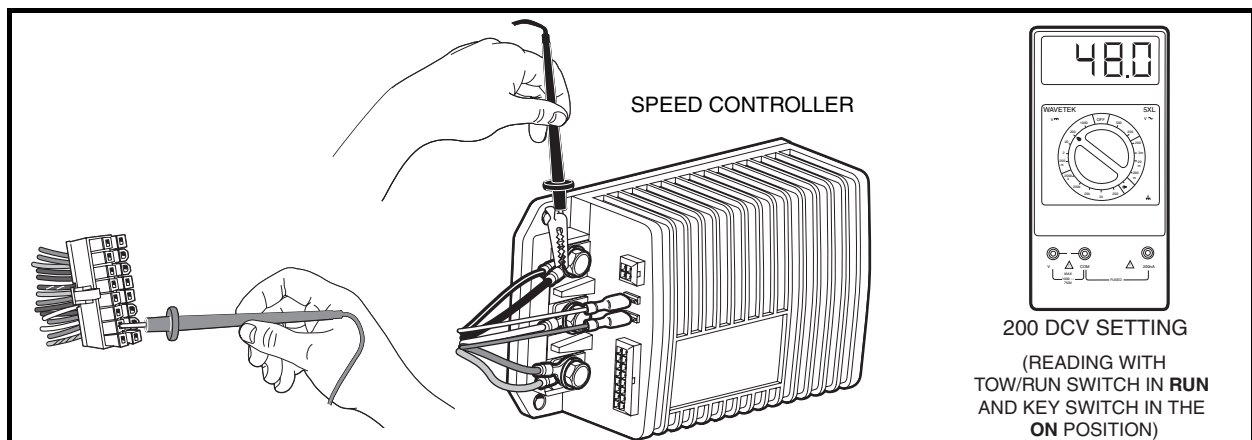

Figure 21-11 Pin 10 Test
4. With a multimeter set for 200 volts DC, insert the red (+) probe of the multimeter into pin 10 (tan wire) of the 16-pin connector. See following **CAUTION.** With an alligator clip, connect the black (–) probe to the B– terminal of the speed controller (**Figure 21-11, Page 21-26**).